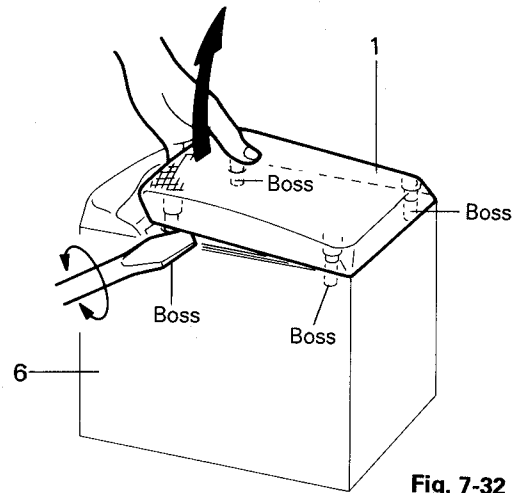

Fig. 7-32
1. Carefully lift the speaker net assembly (1) upwards by fingers as shown in Fig. 7-32 to separate it from the speaker box assembly (6) gradually.
2. Insert an ordinary (-) screwdriver or a thin iron plate into the gap between the speaker box assembly and the speaker net assembly that is slightly separated upwards as shown in Fig. 7-32, while carefully disengaging bosses one by one to separate them (see Fig. 7-32, too).